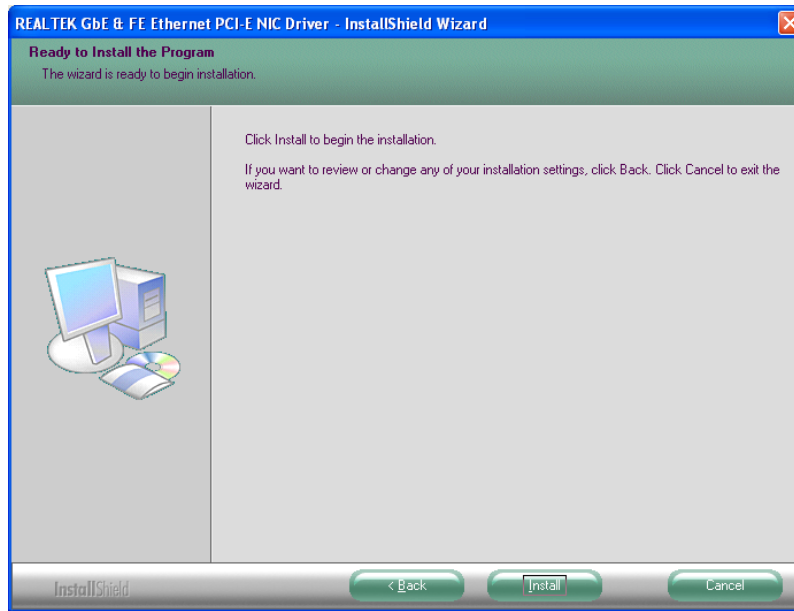

Figure 6-20: LAN Driver Welcome Screen
Step 5: The **Ready to Install** screen in **Figure 6-20** appears.